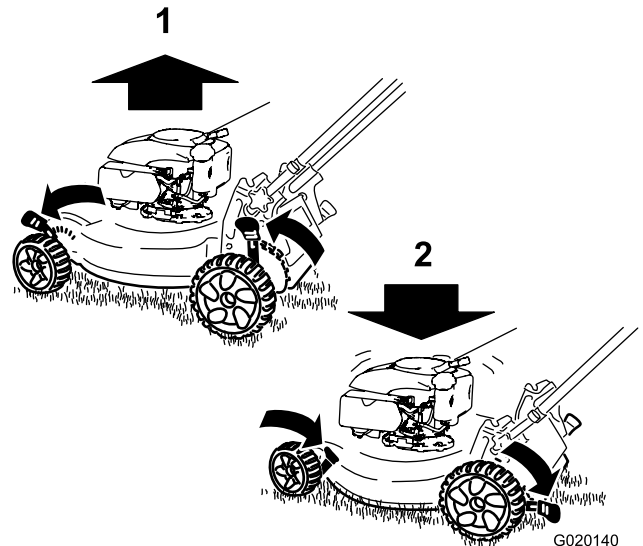

Figure 9
**Note:** To raise the mower, move all the cutting height levers forward; to lower the mower, move the all the cutting height levers rearward (Figure 9).